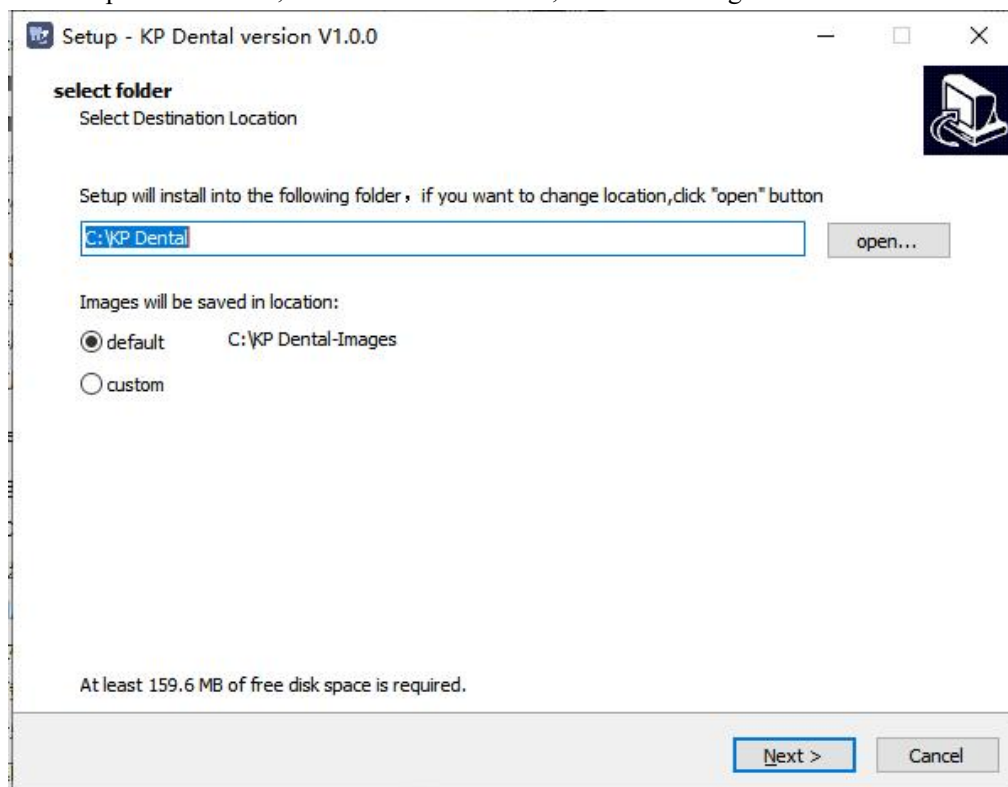

Figure 3
3.1.3 After the installation program is started, click the "Browse" button to select the installation path. After the path is selected, click the "Next" button, as shown in Figure 3: